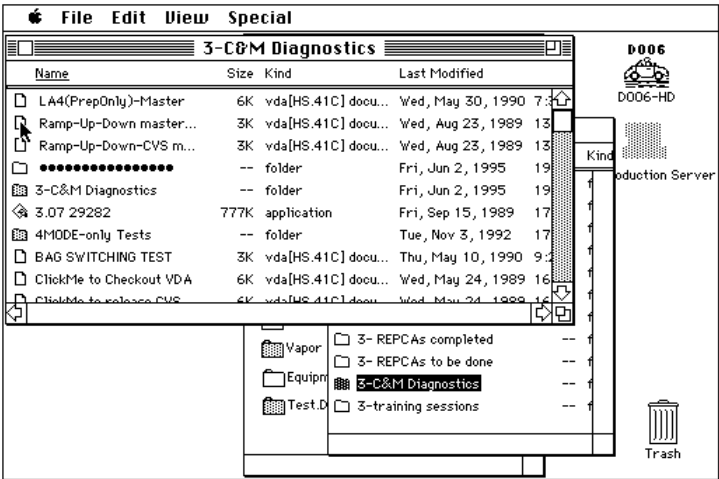

Figure 6
7.25.7 Double click on the “Ramp-Up-Down master” folder (see figure 6).